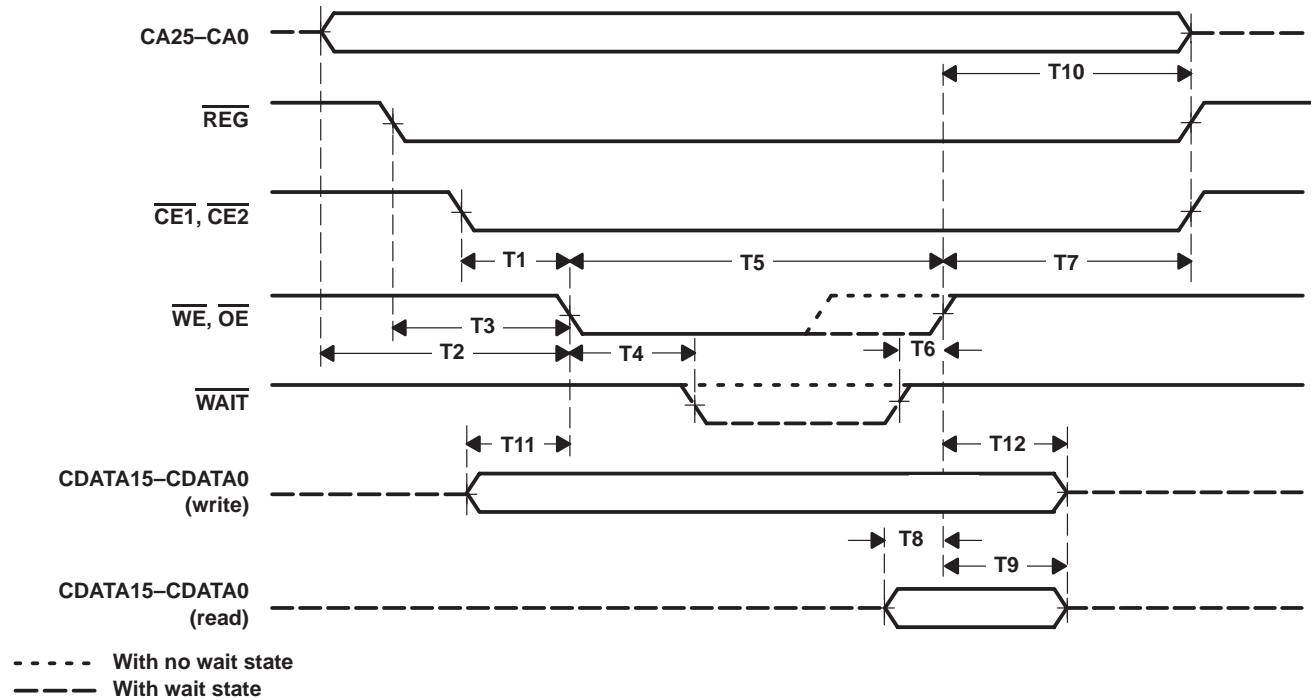

Figure 23. PC Card Memory Cycle
**timing requirements over recommended ranges of supply voltage and operating free-air temperature, memory cycles (for 100-ns common memory) (see Note 5 and Figure 23)**